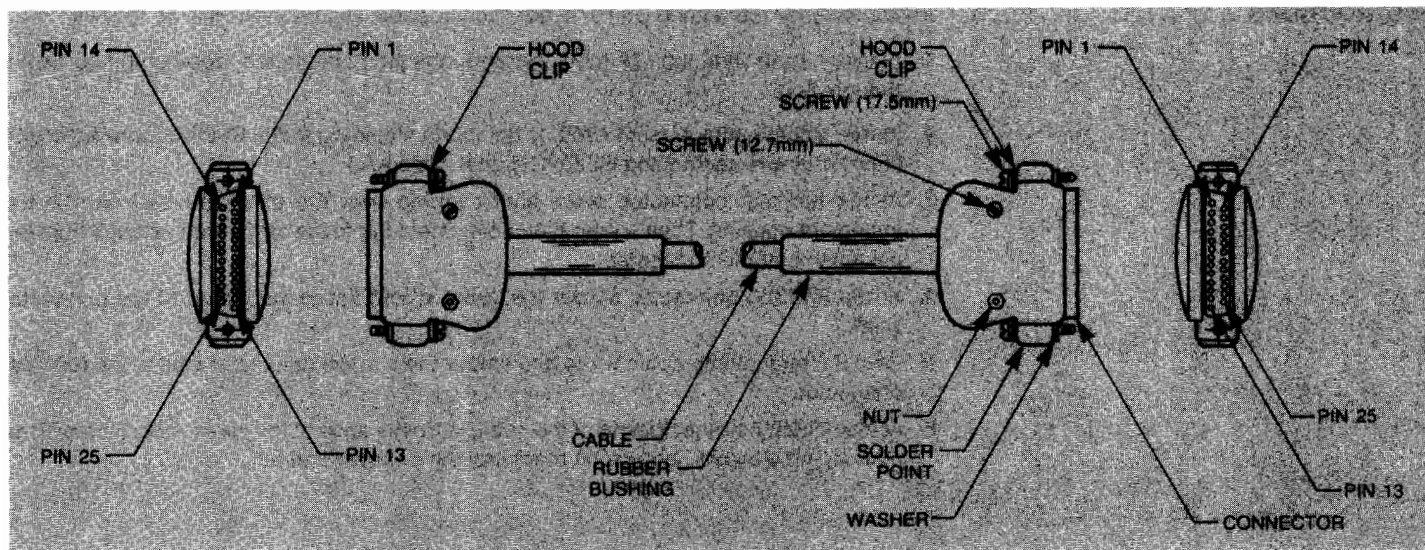

Figure 2-15. 13242 Series Cable Fabrication (Port 2)
Instructions for fabricating an HP 13242 series cable (figure 2-15) are as follows:
3. Insert each wire to be used into a pin, crimp the pin, and insert each pin into the correct hole in the connector (figure 2-15).